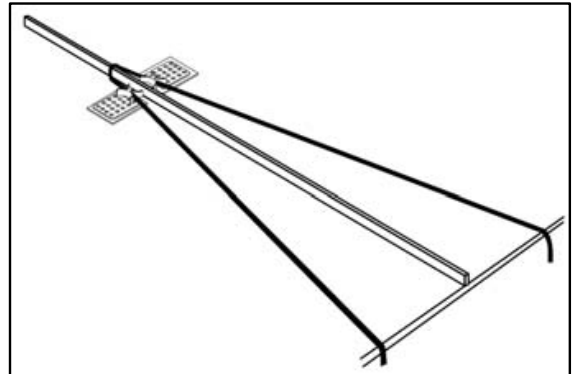

Figure 8.
4. Orient BT-50 roof clip as needed on prepared surface. Press down to ensure double-sided adhesive pad adheres to surface. See Figure 8.